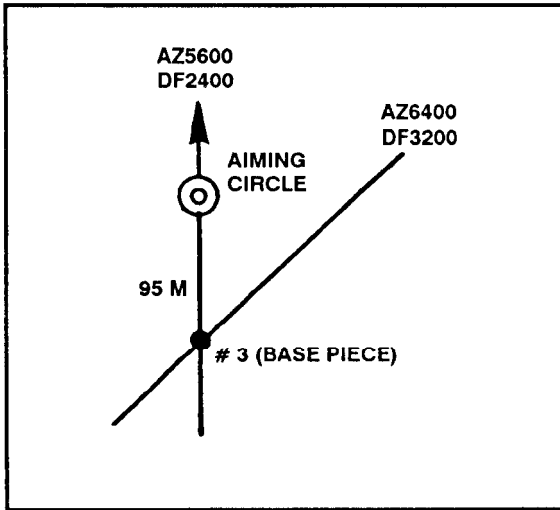

Figure G-4a. Determination of piece displacement.
b. The clear rotating disk of the plotting board is used to plot the location of each mortar. The disk has an azimuth scale around the outside edge; a temporary lay deflection scale must be superimposed on the disk. The lay deflection scale increases from left to right as does the azimuth scale. Deflection 3200 always corresponds to the azimuth of lay when determining piece displacement (Figures G-4a to G-4d). Once superimposed, the lay deflection scale is used to plot the location of the aiming circle and the mortars as shown in the following steps.